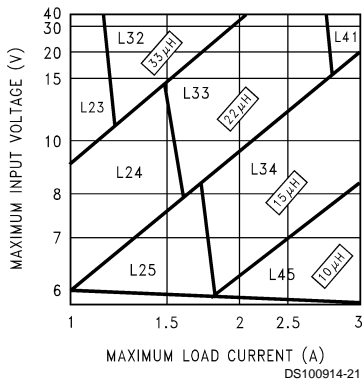
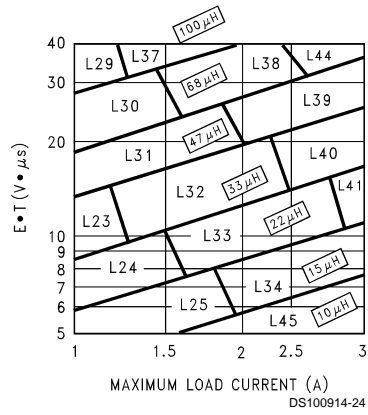

FIGURE 3. LM2676-3.3
FIGURE 6. LM2676-ADJ
Step 3: Determine the inductor required by using one of the four nomographs, *Figure 3* through *Figure 6*. Table 1 provides a specific manufacturer and part number for the inductor.
Step 5: Determine an input capacitor from Table 4 for fixed output voltage applications. Use Table 2 to find the specific capacitor type. For adjustable output circuits select a capacitor from Table 2 with a sufficient working voltage (WV) rating greater than $V_{in\ max}$, and an rms current rating greater than one-half the maximum load current (2 or more capacitors in parallel may be required).
Step 3: Use the nomograph for the 3.3V device, *Figure 3*. The intersection of the 16V horizontal line ($V_{in\ max}$) and the 2.5A vertical line ($I_{load\ max}$) indicates that L33, a 22 μ H inductor, is required.
Step 3: To use the nomograph for the adjustable device, Figure 6, requires a calculation of the inductor Volt•microsecond constant ($E \cdot T$ expressed in $V \cdot \mu s$) from the following formula:
Using Figure 6, the intersection of $27V \cdot \mu s$ horizontally and the 2A vertical line ($I_{load\ max}$) indicates that L38, a 68μH inductor, should be used.
Important Note: When using the adjustable device in low voltage applications (less than 3V output), if the nomograph, Figure 6, selects an inductance of 22μH or less, Table 6 does not provide an output capacitor solution. With these conditions the number of output capacitors required for stable operation becomes impractical. It is recommended to use either a 33μH or 47μH inductor and the output capacitors from Table 6.